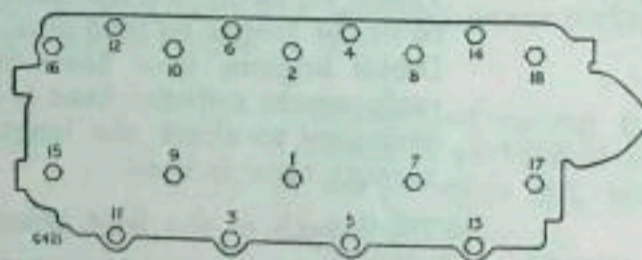

Fig. 1. Order of tightening cylinder head bolts
6. Check the cylinder head bolt tightness in the order indicated at Fig. 1, ensuring that all the  $\frac{1}{2}$  in. nuts and bolts are pulled down to 90 lb/ft. (12.5 mkg).